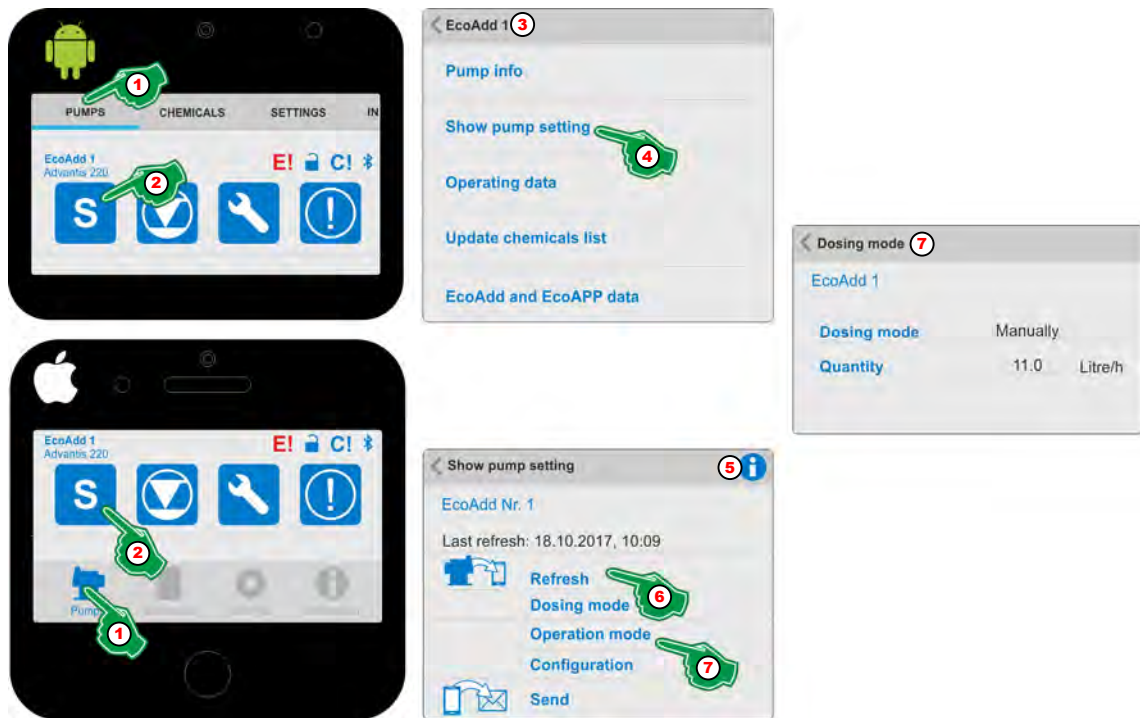

Fig. 25: Show pump settings - Operating mode
1. ➤ Select Menu [Pumps] (Fig. 25, Pos. 1).
2. ➤ Select Symbol 'Dosing mode' (Fig. 25, Pos. 2).
3. ➤ To check which pump is currently displaying data, click on header (Fig. 25, Pos. 3) in which the selected pump is displayed.
4. ➤ Select [Show pump settings] (Fig. 25, Pos. 4).
5. ➤ With the selection of the [Info] ⓘ Symbol (Fig. 25, Pos. 5), the following information appears:
6. ➤ Select [Refresh] (Fig. 25, Pos. 6).
7. ➤ Select [Operation Mode] (Fig. 25, Pos. 7).